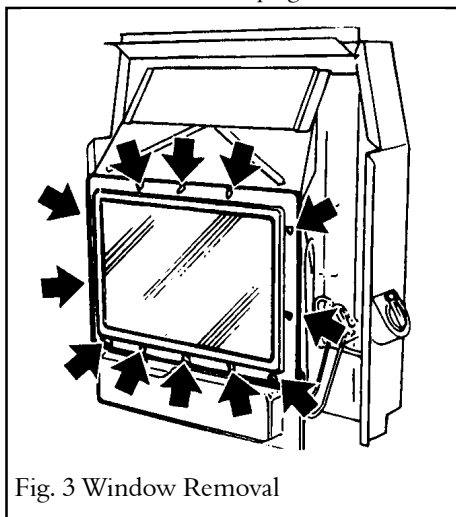

Fig. 3 Window Removal
- 4.4 Remove the window unit by detaching the 12 wing nuts securing the window frame (see fig.3) and pulling forward.